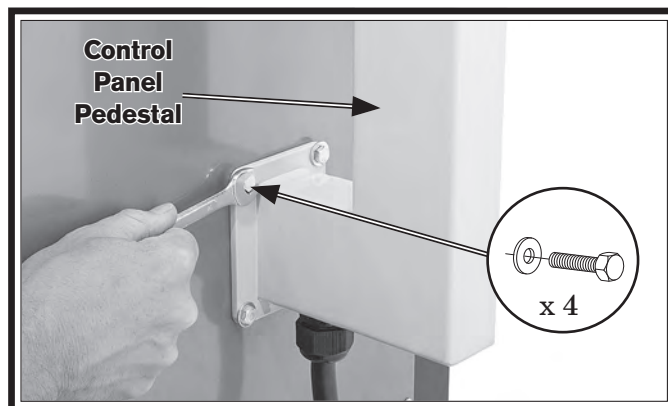

Figure 8. Attaching control panel to machine base.
2. Carefully rotate control panel to upright position and attach pedestal to side of machine with (3) $\frac{1}{4}$ " -20 x $\frac{1}{2}$ " hex bolts and (3) $\frac{1}{4}$ " flat washers, plus the hex bolt and flat washer that was loosened in **Step 1**, as shown in **Figure 8**.